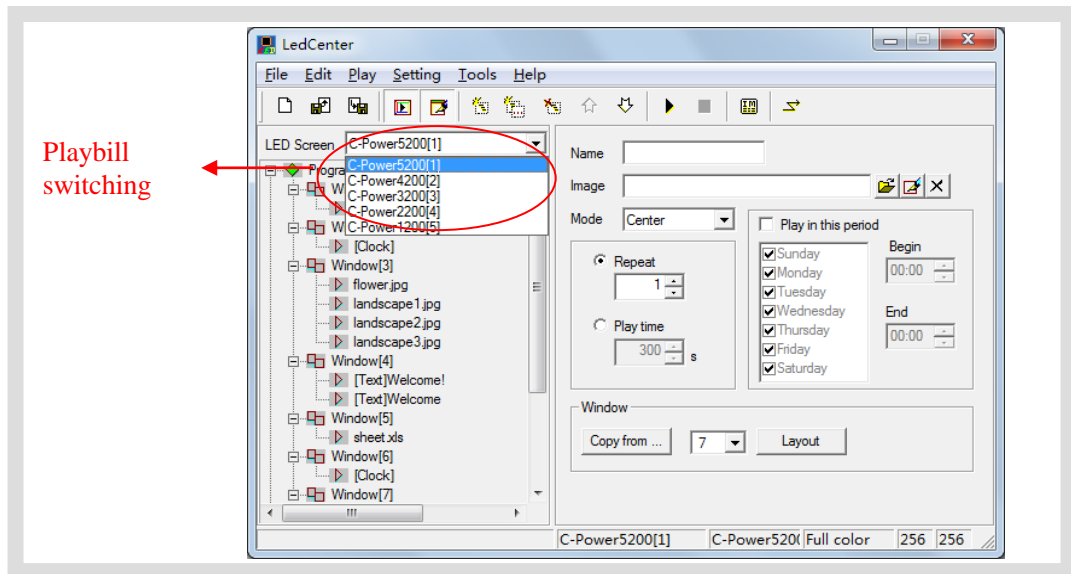

Figure10 Playbill switching of display screens
- The **playbill** switching of display screens is shown as Figure10.